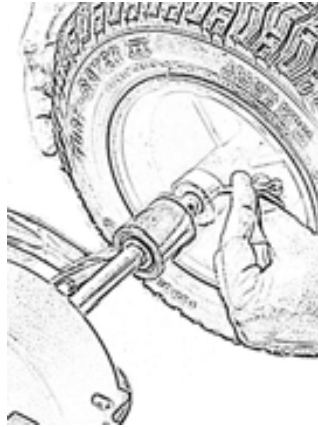

Fig 1
- Step 4:** Place the drive wheel (either wheel can be used) on the axle and secure with the long cotter pin and bend. (NOTE: Drive wheel side has the cross-hole in the axle closest to the frame as shown) **Fig 1**